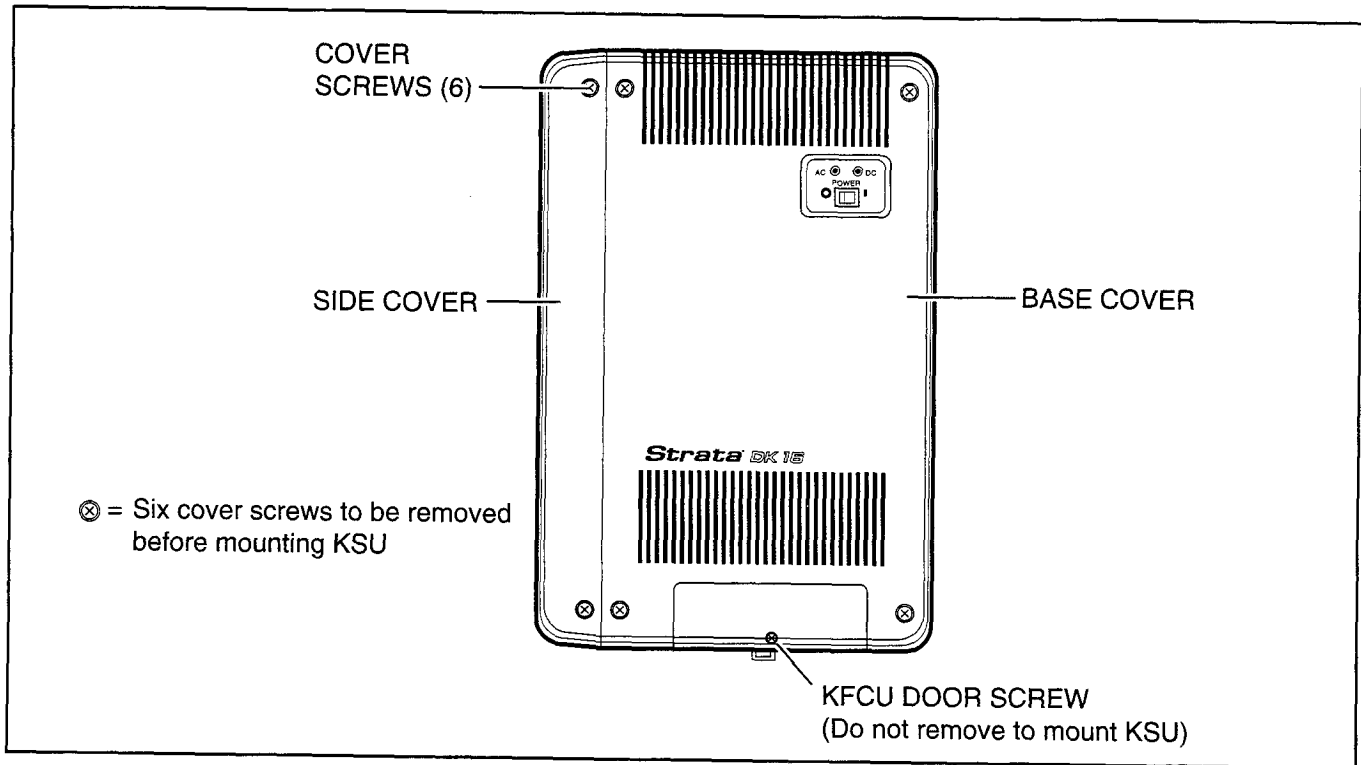

FIGURE 5-1
- 1) Loosen the screws on the front cover and the side cover of the Base Key Service Unit, and remove the covers (Figure 5-1).